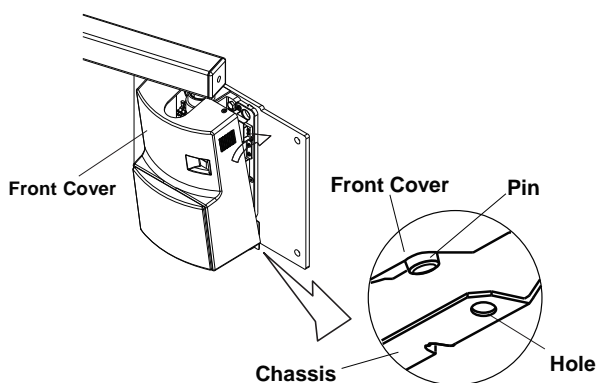

Fig.3-9A Attaching Front Cover-1
- Set the pins located on the bottom of the front cover into holes on the bottom of metal chassis, and then push the top side toward the wall to close. (Fig.3-9A)